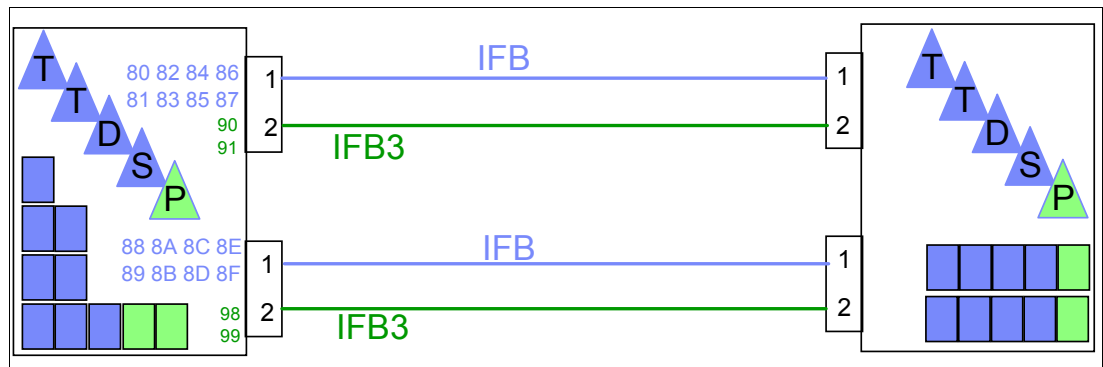

Figure 3-10 Separating production and non-production sysplexes
An example configuration is shown in Figure 3-10. In this case, there is one production sysplex (P), two test sysplexes (T), one development sysplex (D), and one system programmer sandbox sysplex (S). The production sysplex is using port 2 on each adapter. Because those ports only have two CHPIDs defined to them, they run in IFB3 mode. All the other sysplexes are sharing port 1 on the two adapters. Because there are more than four CHPIDs defined to those ports, they will run in IFB mode. However, the performance difference is less likely to be important to those sysplexes.